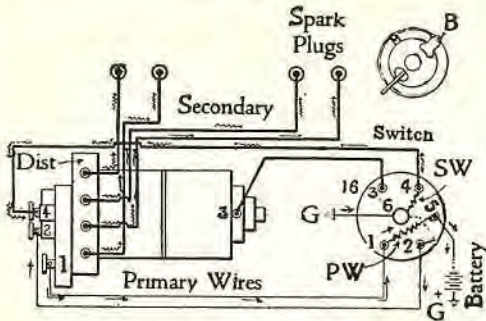

Fig. 21. Battery position.
The outside wiring of the battery and coil system is shown in Fig. 21, when the switch is on (B) side. (Note that points 3 and 4 are not connected, thus opening the magneto circuit.) The primary current leaves the battery and travels to ground (G). As (6) is grounded, current goes to (6), thence to (2) and along (2) to the magneto; then to (1) on switch plate (17). Here it travels through primary winding (PW) of coil then to (5) and back to battery, thus completing the primary circuit. The secondary circuit is from (4) to distributor, thence to spark plugs.